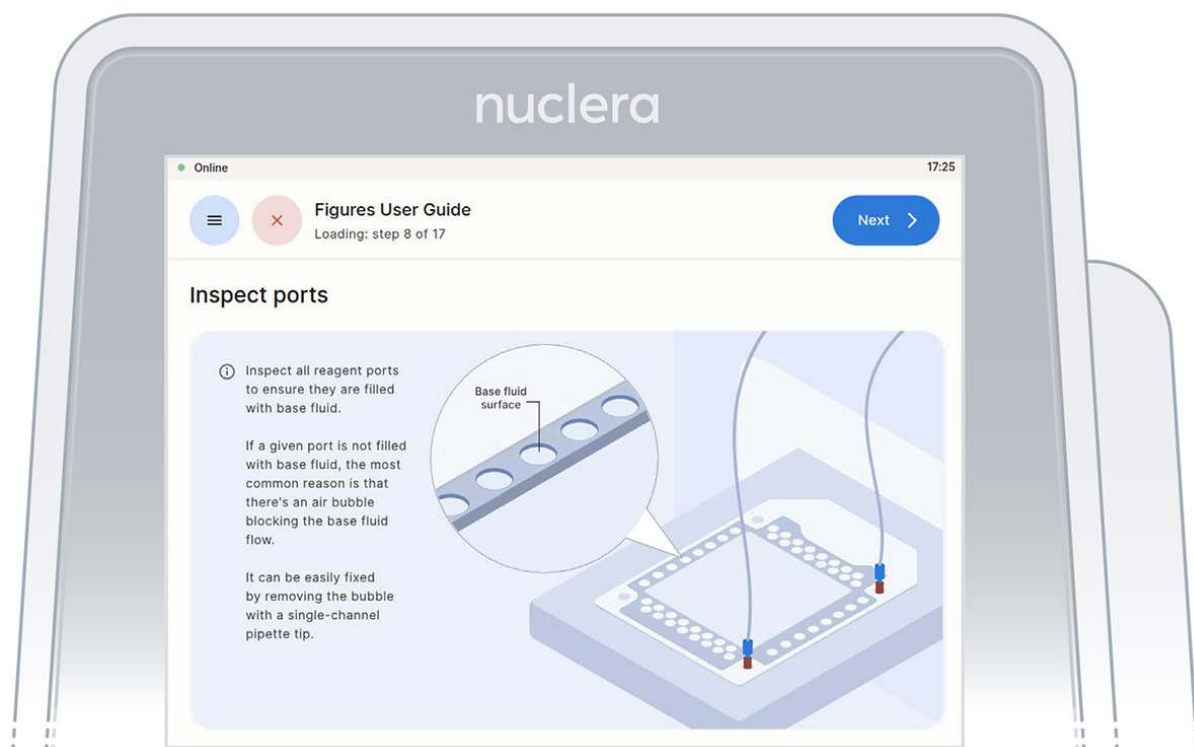

Figure 16: Confirm that all the ports on the cartridge are filled with base fluid
4. Inspect the ports on the cartridge after the priming with base fluid is complete. Ensure all the ports are filled and press the **[Next]** button (Figure 16).